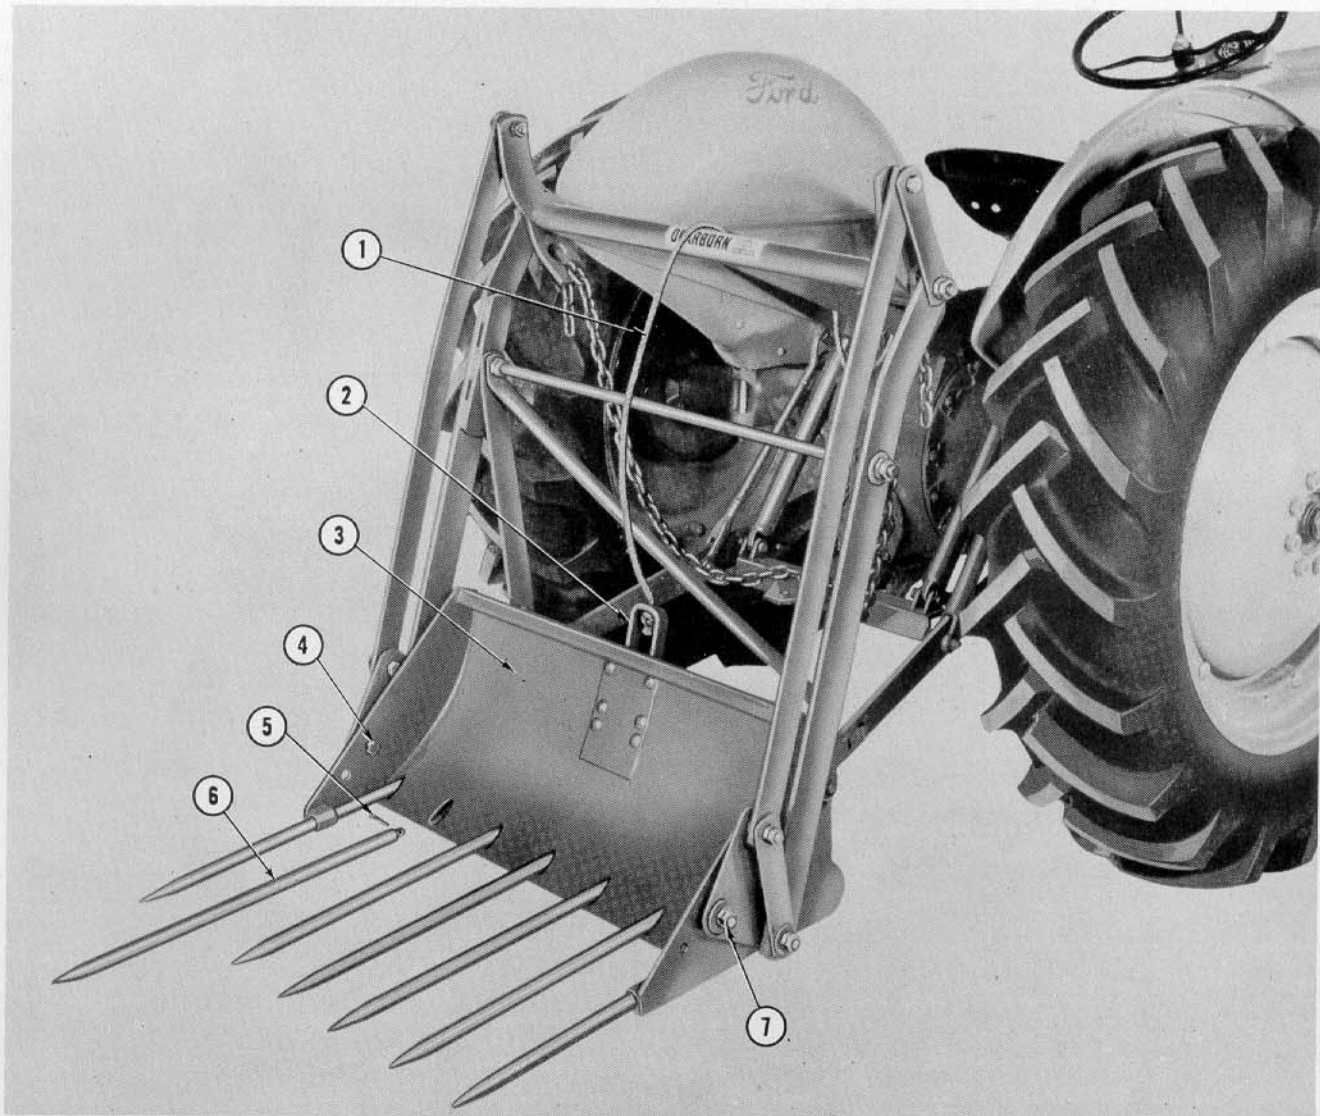

Figure 8
- a. Position the fork (3), Figure 8, in the cradle assembly as shown.
- b. Insert the bolts (4) and (7), Figure 8, and place a  $1\frac{3}{16}$ " x  $1\frac{1}{16}$ " spacer over each bolt. Lubricate each spacer with a good grade of gun grease. Secure each with the flatwashers, nuts and jam nuts provided.
- c. Insert the seven tines (6), Figure 8. Secure each tine at the rear of the fork with the cotter pins (5) provided.
- d. Attach the trip rope (1), Figure 8, to the latch assembly (2). Secure the other end of the rope to the tractor within easy reach of the operator.